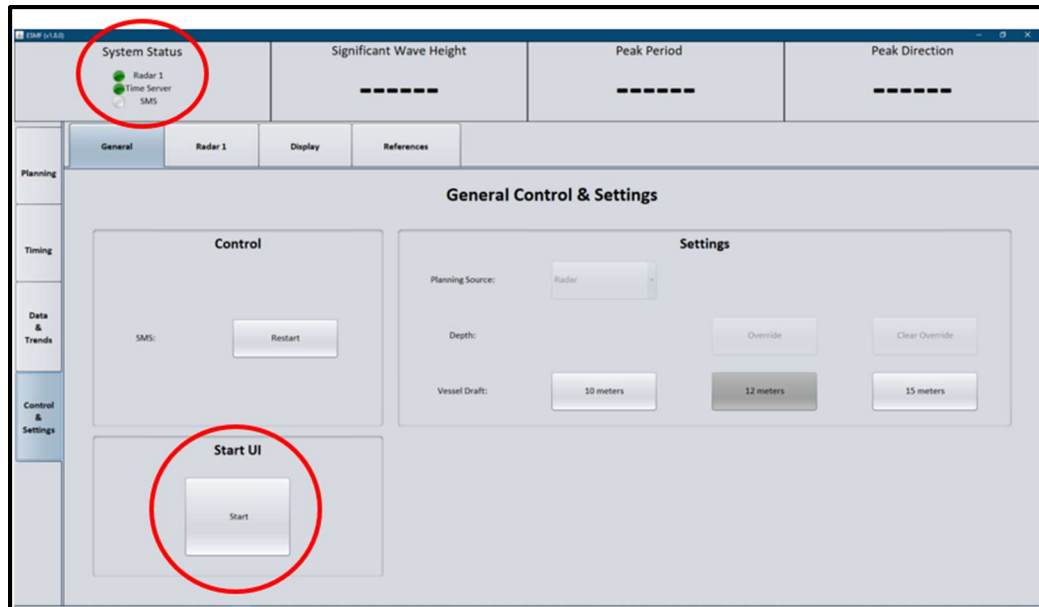

Figure A2: Location of the *System Status* and 'Start' Button on the **General Tab**
4. (Refer to Figure A2) Find the *System Status* on the upper-left corner of the display. If the 'SMS' indicator is grey and all other indicators are green, then the system is ready to start receiving data. Press the 'Start' button.